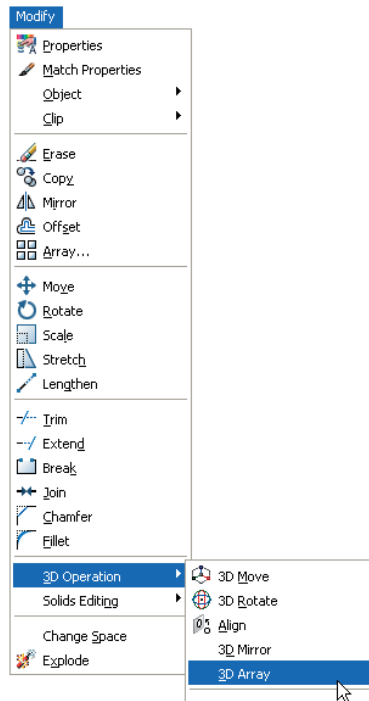

Fig. 15.11 Selecting **3D Array** from the **Modify** drop-down menu
2. Click on **Modify** in the menu bar and in the drop-down menu which appears *click* on **3D Operation**, followed by another *click* on **3D Array** in the sub-menu which appears (Fig. 15.11). The command line shows: